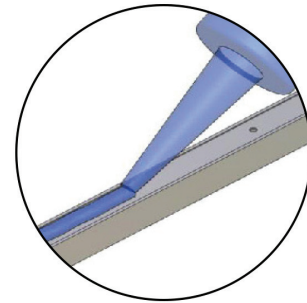

FIG 5.
- Clean base and underside of channel with a dry rag. Run a thick bead of silicone along underside of floor channel (FIG 5).
- Clean underside of wall channel with a dry rag before running a thick bead (be very liberal to allow overflow and proper adhesion) of silicone in a continuous line down the entire length of the back of the wall channel (FIG 5) and place on wall. Pop out channel connector and apply silicon into the floor to wall junction, popping the channel connector back in once done.